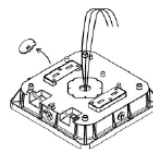

Figure 4
3. Remove the rubber plug sealing the wireway enclosure by gently prying and pulling off the plug (see Figure 4).